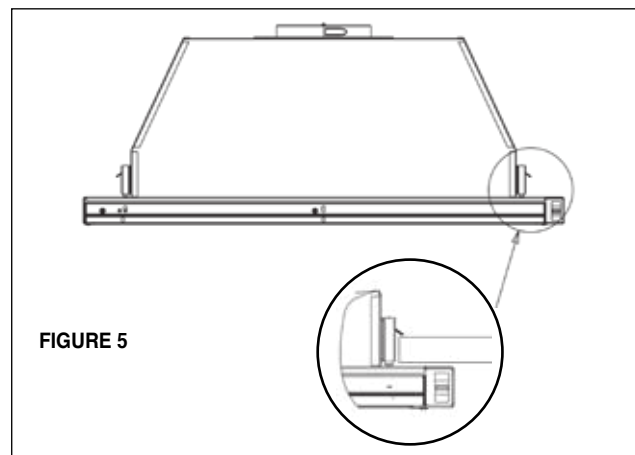

FIGURE 5
3. The rangehood mounts to the cabinet by two spring loaded brackets, one on each side of the rangehood (**FIGURE 5**). Lift the rangehood into the cutout opening in the cabinet. Be careful not to damage the cabinet, rangehood or other appliances.